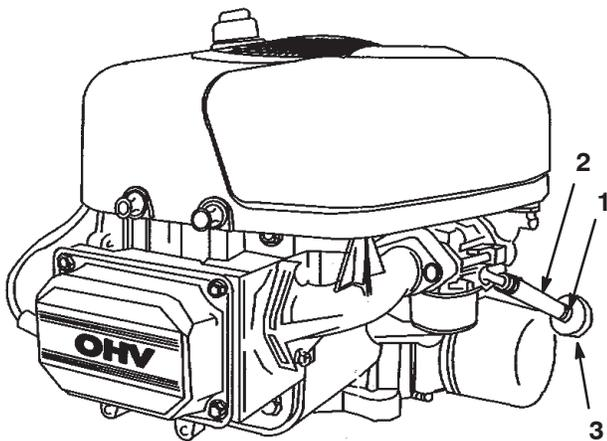

Figure 35
4. Loosen the hose clamp at the fuel filter and slide it up the fuel line away from the fuel filter (Fig. 35).
5. Pull the fuel line off of the fuel filter (Fig. 35).
7. Install the fuel line onto the fuel filter. Slide the hose clamp close to the fuel filter to secure the fuel line (Fig. 35).
4. Squeeze the ends of the hose clamps together and slide them away from the filter (Fig. 35).
6. Install a new filter and move the hose clamps close to the filter (Fig. 35).